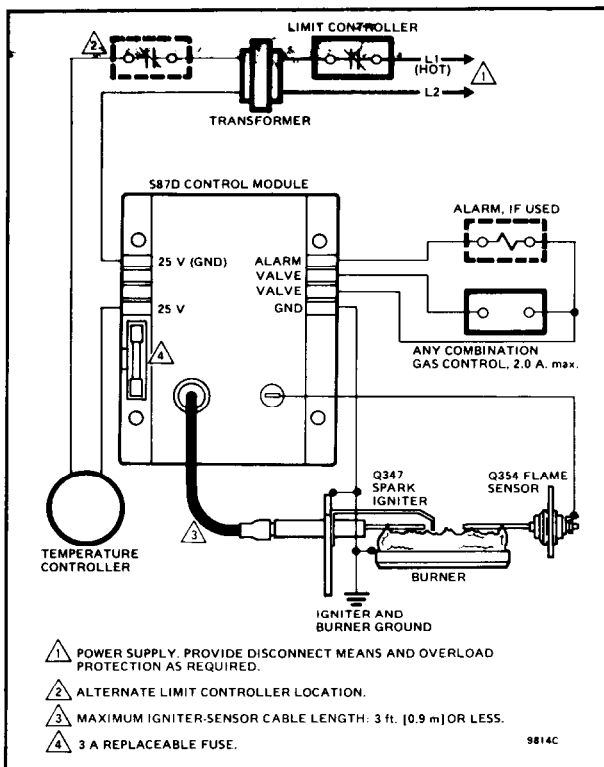

FIG. 4—WIRING HOOKUP FOR Y343B PACKAGE IN A TYPICAL DSI HEATING SYSTEM.
1. Connect the GND burner, quick-connect terminal on the S87D to one of the mounting screws on the Q347A as shown in Fig. 4. The S87 and Q347 must have a common ground. Use thermoplastic insulated wire with a minimum rating of 105 C [221 F] for the ground wire; asbestos insulation is not acceptable. If necessary, use a shield to protect the wire from radiant heat generated by the burner.
1. Male quick-connect terminals (1/4 in. [6.4 mm]) are provided on both the Q354 and S87D. Connect the SENSOR terminal on the S87 to the terminal on the Q354 as shown in Fig. 4. Use thermoplastic insulated wire with a minimum rating of 105 C [221 F] for the flame sensor leadwire; asbestos insulation is not acceptable.
Connect the system transformer, thermostat, high temperature limit controller, combination gas valve and alarm (if used) as shown in Fig. 4.